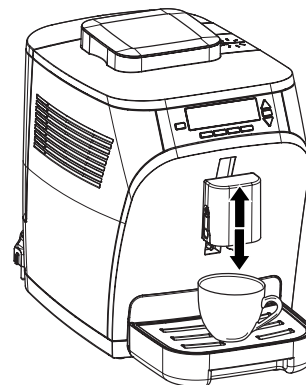

fig. 5: Place the cup below the dispenser and adjust the outlet height*
1. Place a cup on the cup tray below the coffee-milk dispenser and adjust the height of the coffee-milk dispenser to the cup height (fig. 5).
2. Place a cup on the cup tray below the coffee-milk dispenser of the appliance and adjust the height of the coffee-milk dispenser to the cup height (fig. 5).